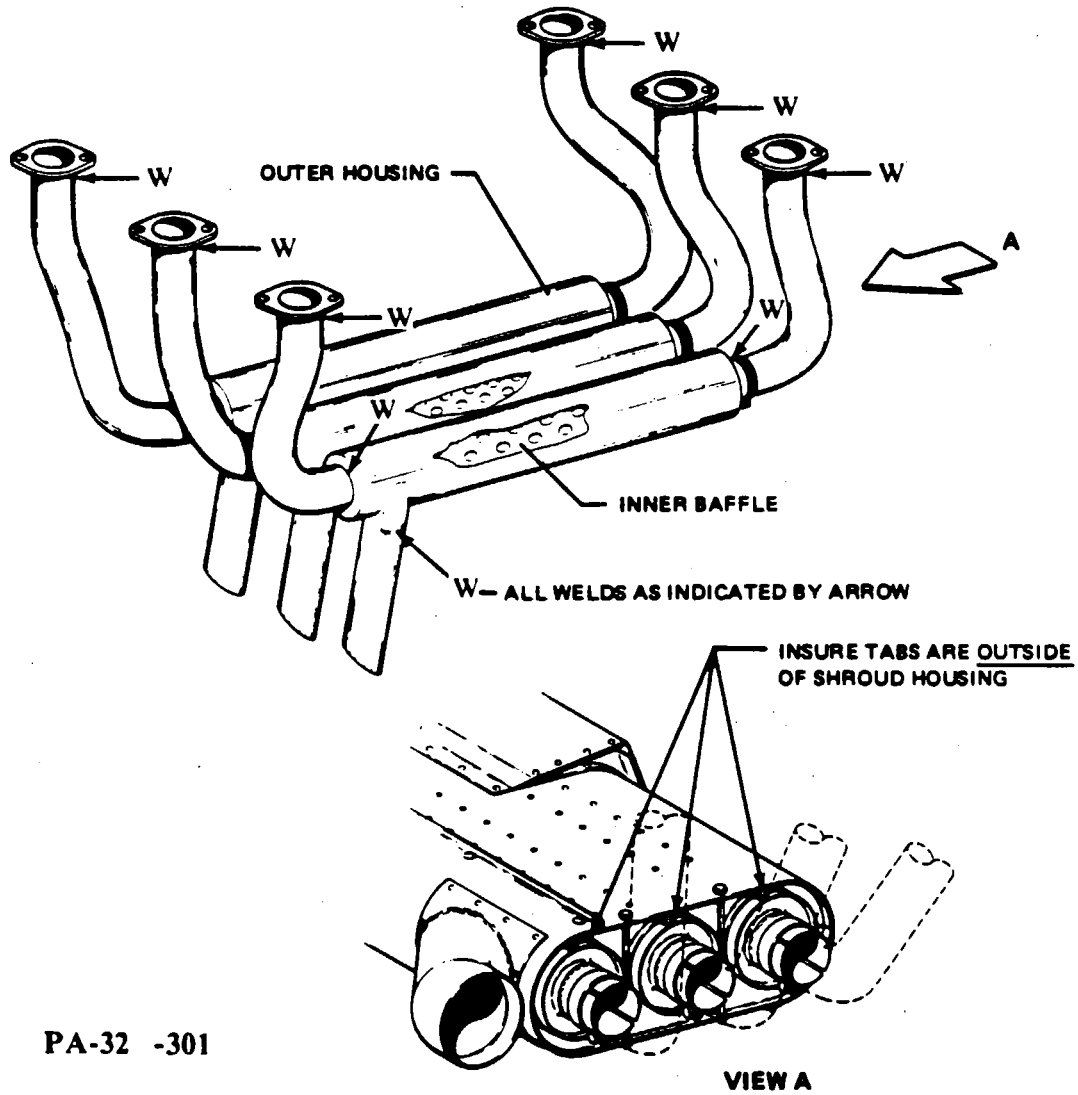

Figure 78-1. Exhaust System Inspection Points
INSPECTION OF EXHAUST SYSTEM. (Refer to Figure 78-1 for PA-32-301 installations.)
- A. Check the left end of muffler and shroud assembly to determine if the shroud retaining tabs are totally visible on the outside of the shroud. (Refer to Figure 78-1.)